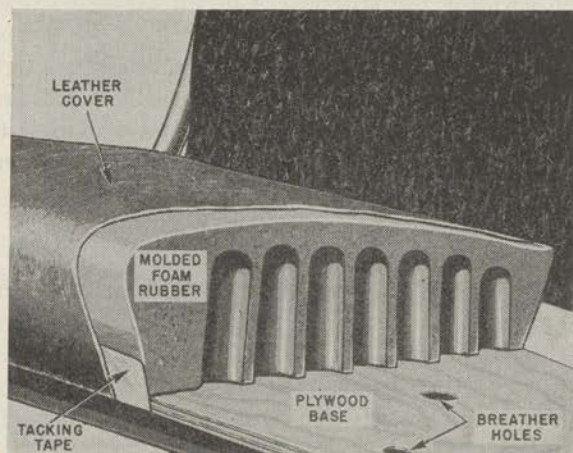

FIGURE 109.—Cross section of molded, full depth, foam-rubber seat.
d. Full depth foam rubber.—Full depth foam rubber construction (fig. 109) uses a wooden frame covered with plywood for the bottom of the seat. Bore several breather holes in the plywood to permit the escape and intake of air as the cushion flexes. Ordinarily, a molded cushion is used, which is purchased in the size and shape required, and has a tacking tape cemented to the bottom. Tack the tape to the wooden frame at the bottom, holding the foam rubber securely in place. Pull the cover over the foam rubber and tack it to the base to complete the job. This type of construction is now extensively used for truck and bus seats, as well as for fire engines and crash trucks.